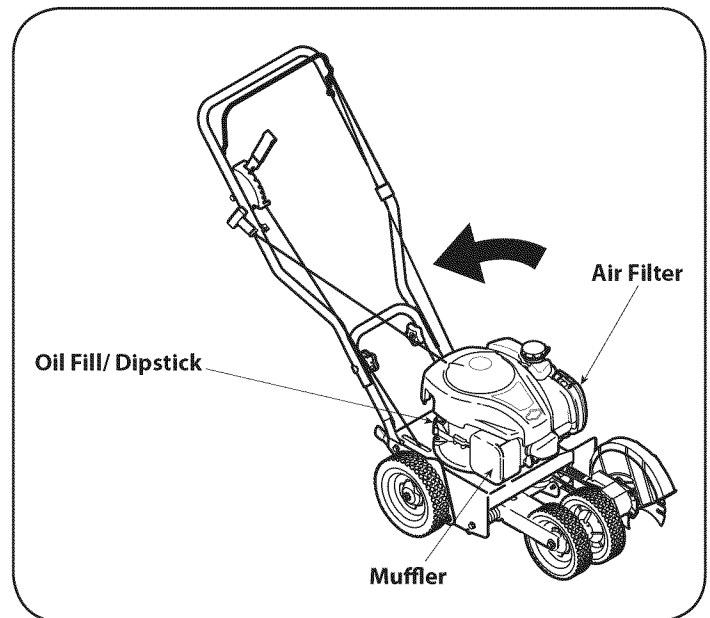

Figure 17
1. With engine off but still warm, disconnect the spark plug wire (F) and keep it away from the spark plug.
3. Remove the oil fill dipstick (E) and drain the oil into the container by tipping the engine toward the oil filler neck. See Figure 17.